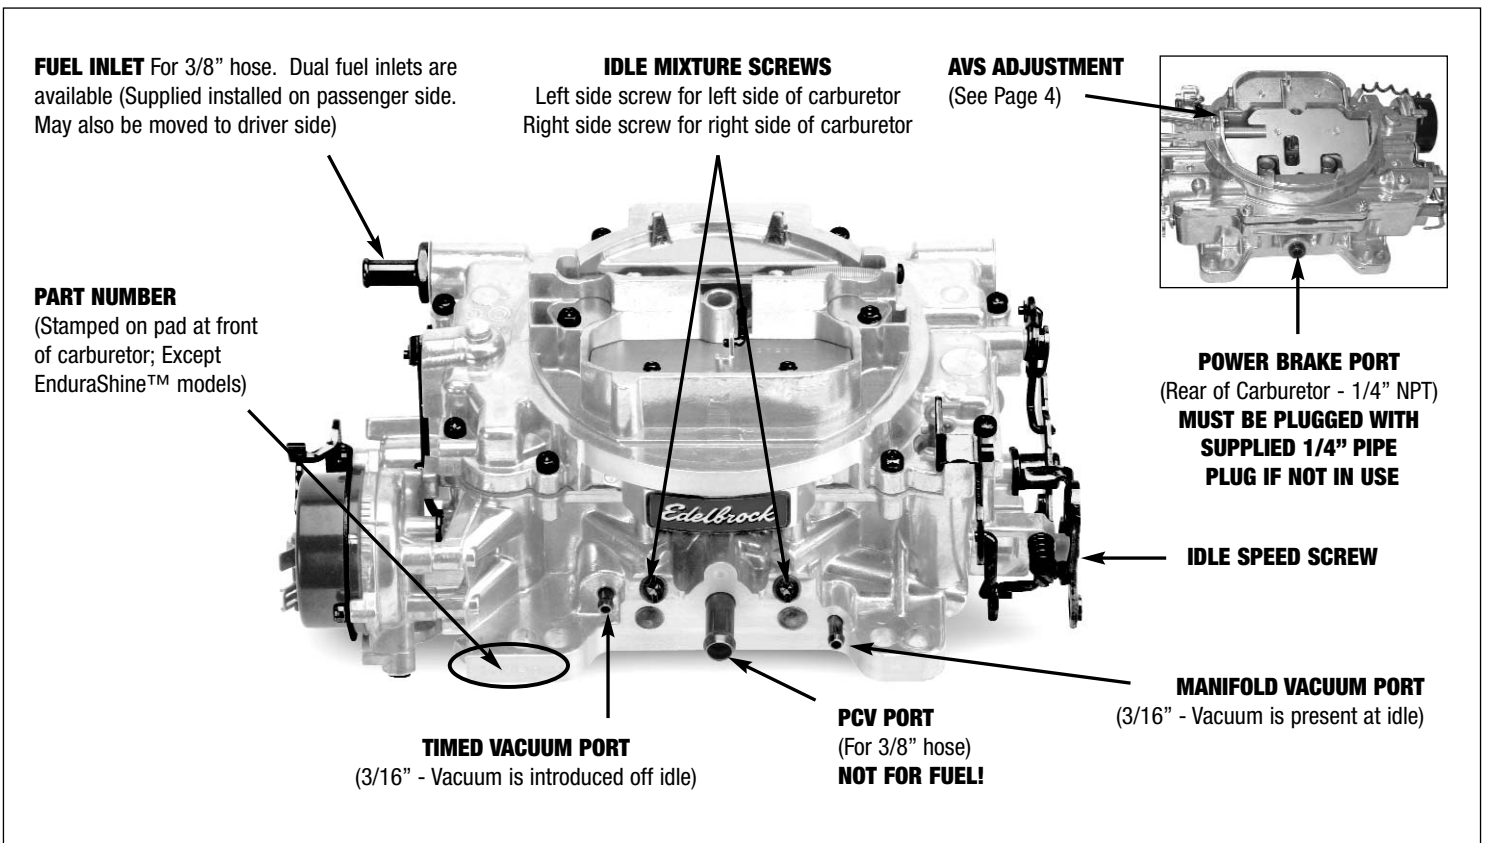

Figure 1 - Fittings and Vacuum Port Location
6. Connect all vacuum hoses to their proper location on carburetor (**See Fig. 1**). Replace hoses that appear brittle or cracked to prevent vacuum leaks.